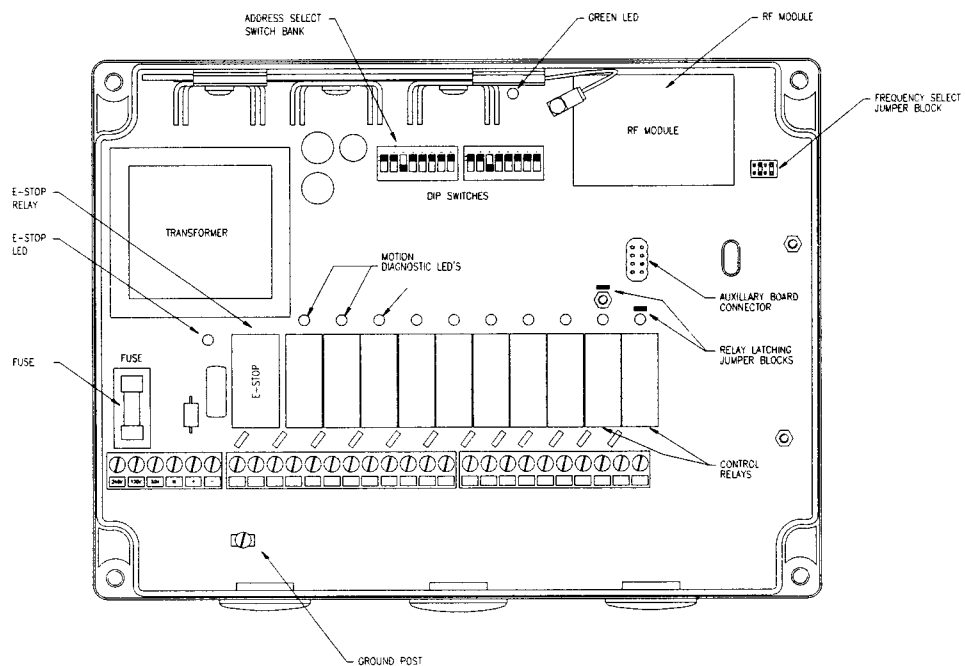

Figure 2.11
2. The transmitter and receiver operate over the 400—470 MHz frequency range (70-cm band). There are 16 possible frequencies and 16 corresponding channels available. Figure 2.11: Frequency Diagram shows each channel, its respective frequency, and the position of the four jumpers according to the diagram for the frequency you are setting.